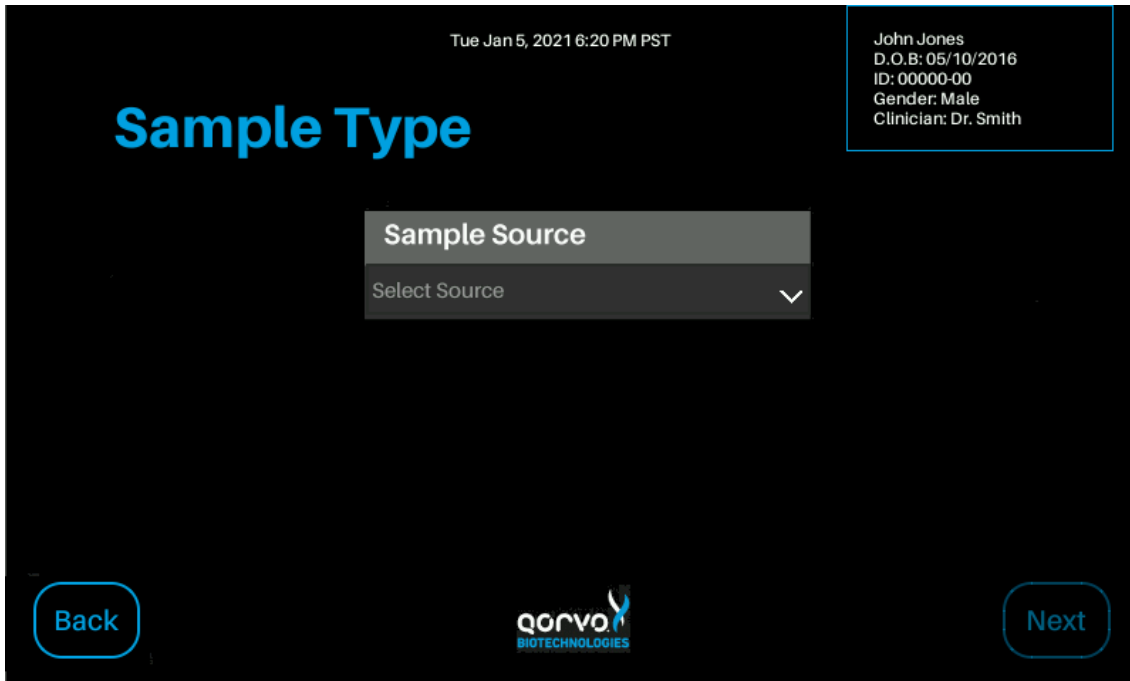

Figure 28
10. Once the cartridge is read and identified, the user may be required to select the sample type as shown in Figure 28. Press “Select Source” or the down arrow to select the sample type from the pull-down display for the assay. For assays with one sample type this screen will not display?